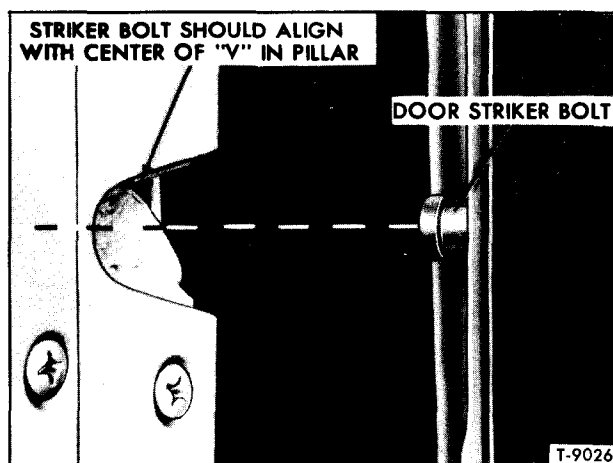

Figure 1—Checking Striker Bolt Adjustment
2. Check to make sure the striker bolt aligns with center of "V" on door as shown in figure 1.